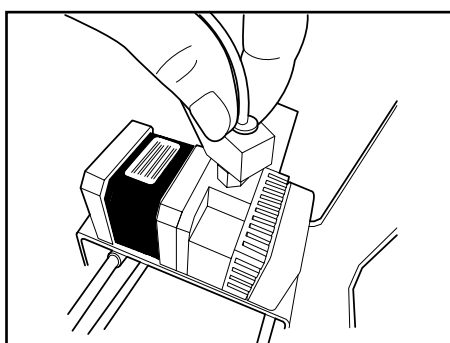

Figure 6.2 Press down on the connector and pull the Fibonacci tube upwards
- ❶ First, load the filament in order to check whether the nozzle is genuinely blocked. To do this, follow the step-by-step instructions on page 25.
- ❷ If you're sure the nozzle is definitely blocked, unload the filament before you start the cleaning process. To do this, follow the instructions on page 28.
- ❸ Detach the Fibonacci guide tube from the extruder by pressing down on the connector and pulling the tube upwards (fig. 6.2).